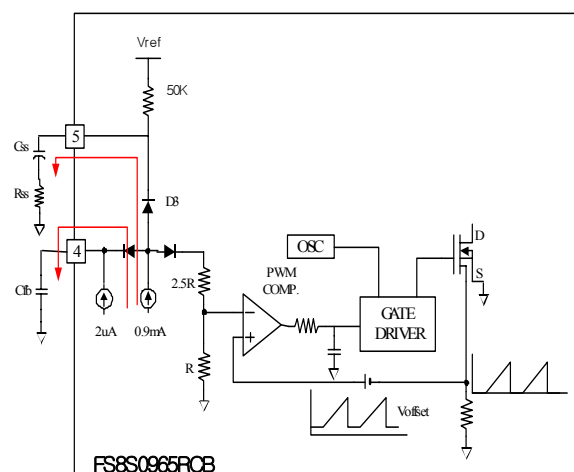

Figure 7. The circuit for the soft start
4. Soft Start : Figure 7 shows the soft start circuit. During the initial start up, the 0.9 mA current source leaks out through C_{ss} and R_{ss}. As C_{ss} is charged, the leakage current decreases. Therefore, by choosing much bigger C_{ss} than C_{fb}, it is possible to increase the feedback voltage slowly forcing the SenseFET current to increase slowly. After C_{ss} reaches its steady state value, D3 is blocked and the soft switching circuit is decoupled from the feedback circuit. If the value of C_{ss} is too large, there is possibility that Vfb increases to 7.5V activating the over load protection during soft start time. In order to avoid this situation, it is recommended that the value of C_{ss} should not exceed 100 times of C_{fb}.